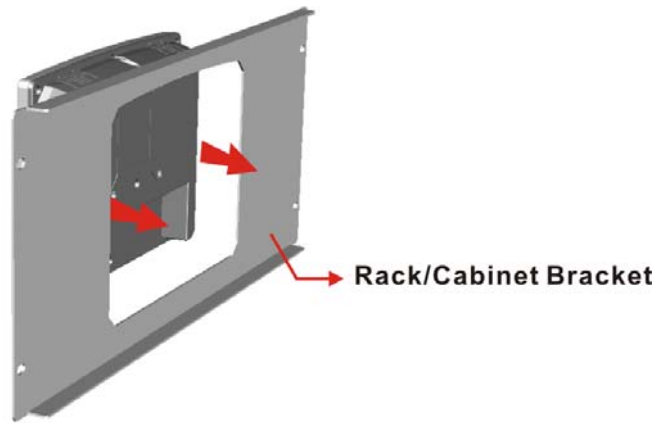

Figure 4-15: The Rack/Cabinet Bracket
Step 1: Slide the rear chassis of the AFL2-12A-D525 flat bezel panel PC through the rack/cabinet bracket until the aluminum frame is flush against the front of the bracket (**Figure 4-15**).